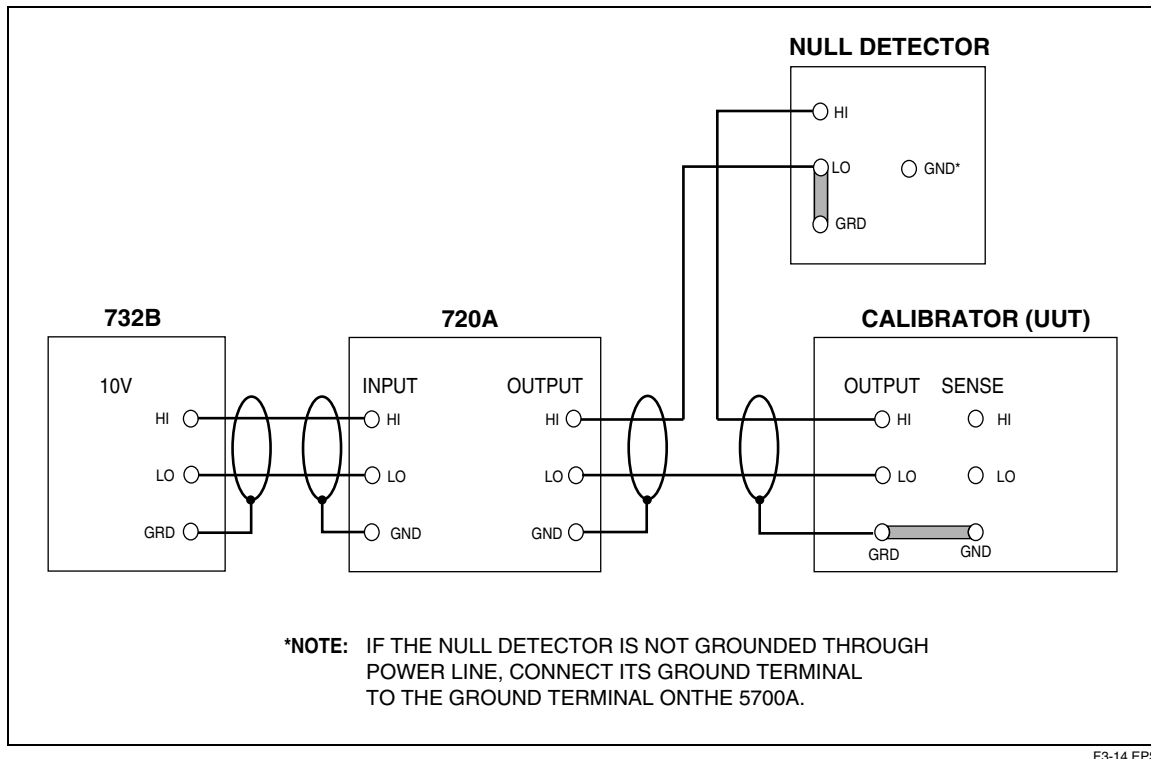

Figure 3-16. DC Voltage Linearity Test
1. Self calibrate the Kelvin-Varley (KV) divider as called for in its service manual.
2. Connect the equipment as shown in Figure 3-16.